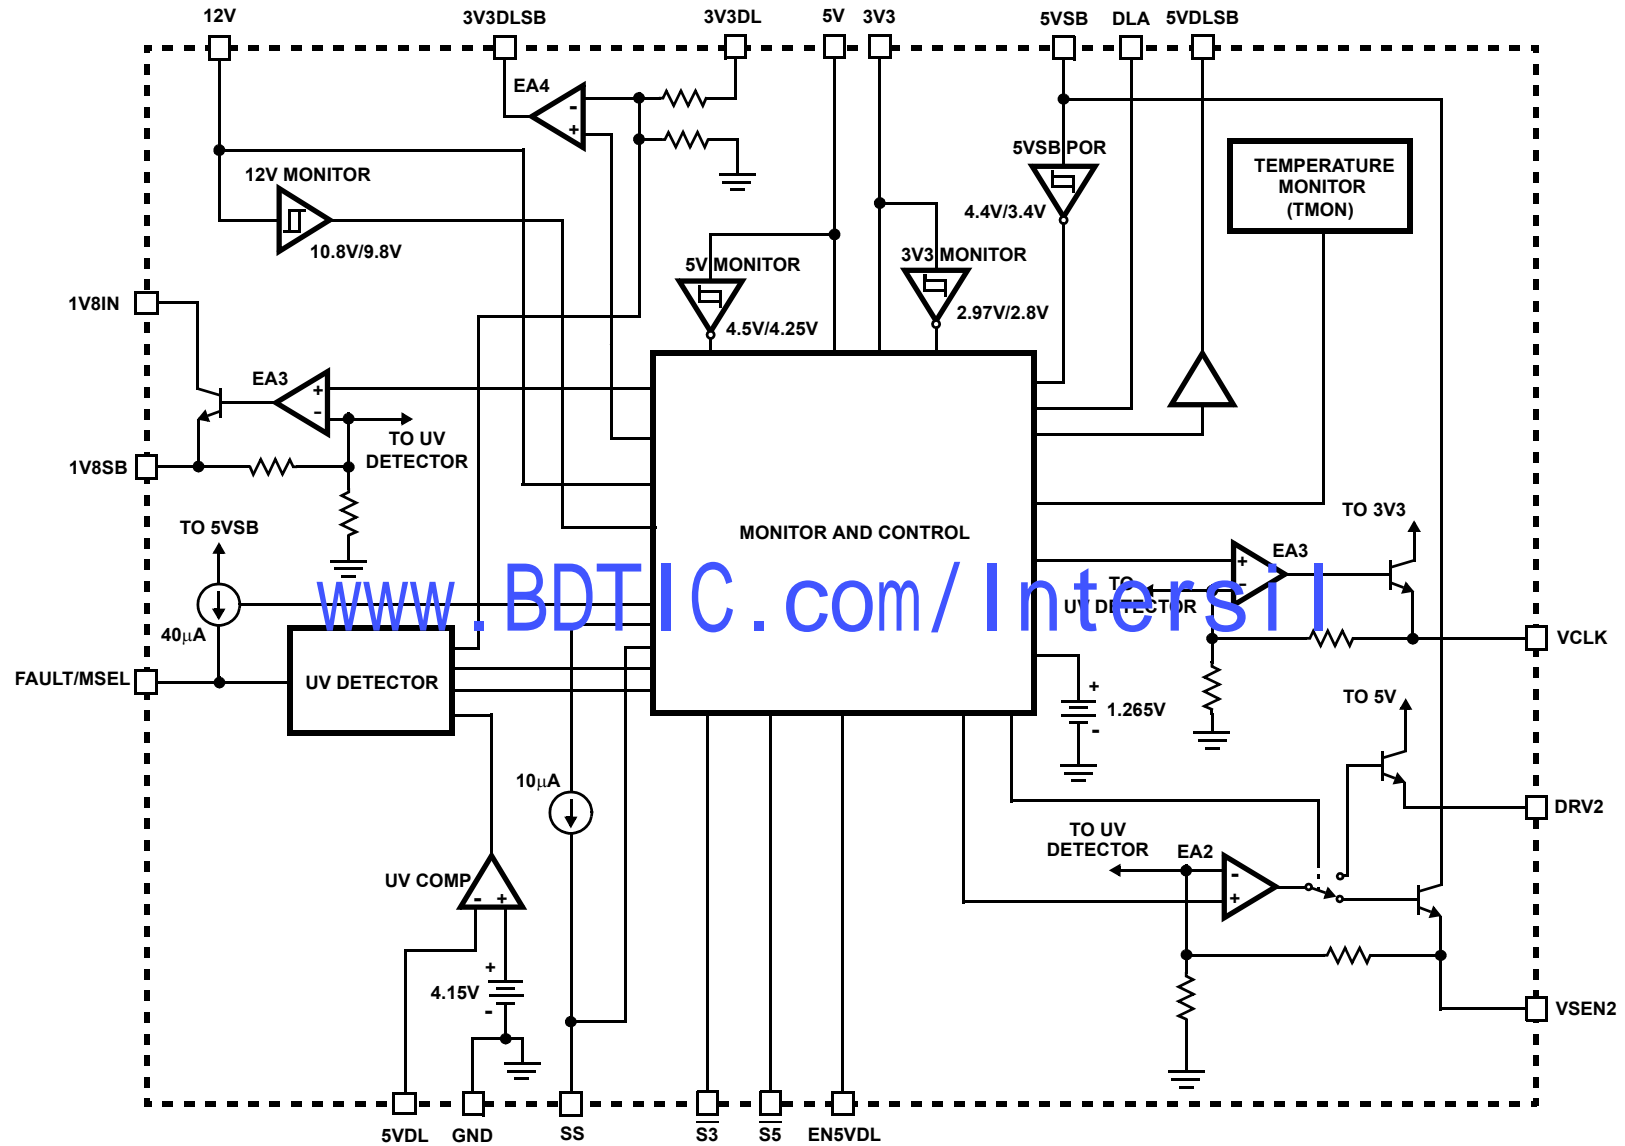

FIGURE 1.
## Electrical Specifications Recommended Operating Conditions, Unless Otherwise Noted Refer to Figures 1, 2 and 3
**Electrical Specifications** Recommended Operating Conditions, Unless Otherwise Noted Refer to Figures 1, 2 and 3 (Continued)